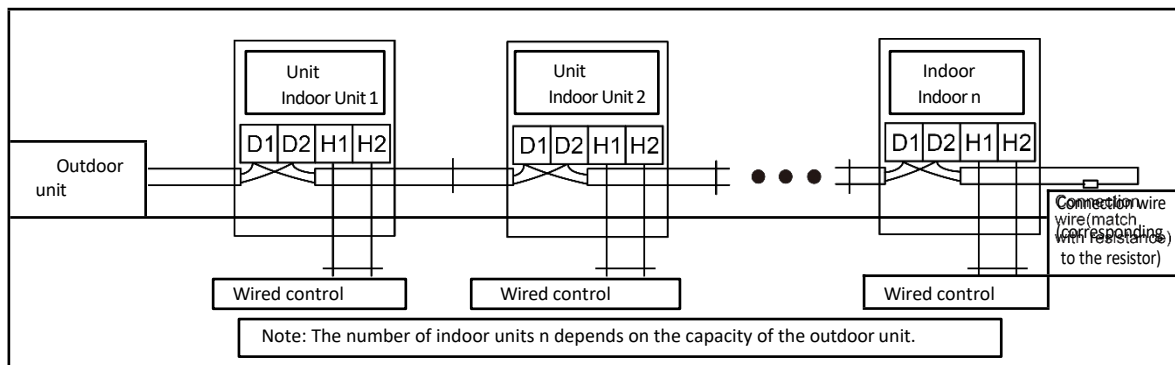

Fig. 5.3.2
- 5 For more reliable communication, be sure to connect the terminal resistor to the indoor unit located furthest downstream on the communication bus (terminals D1 and D2), as shown in Fig. 5.3.2; the terminal resistor is supplied with each outdoor unit.